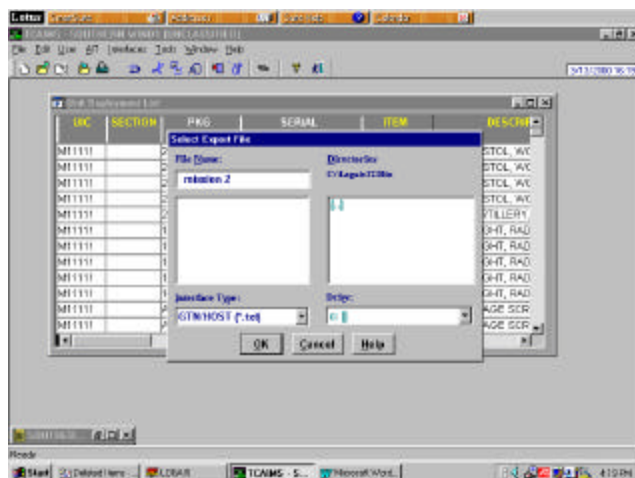

Figure 6
STEP 5. Validate information in the Select Import File box and select **OK** (see figure 6)